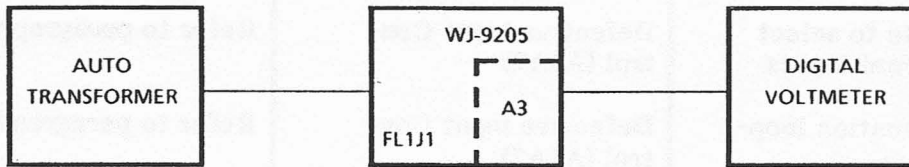

Figure 4-1. Power Supply Performance Test, Equipment Connections
2. Connect the test equipment as illustrated in Figure 4-1 and set the auto transformer to the minimum output voltage position.